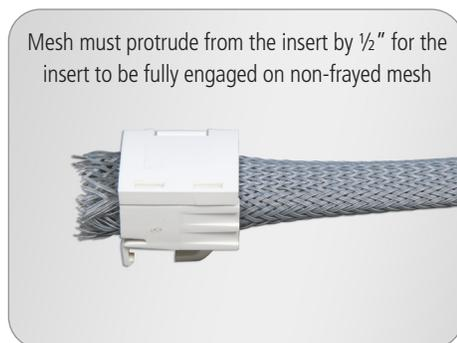

Figure 19
11. Once cover is closed, fully engage insert by pulling mesh gently and allow non-frayed mesh on clip to secure mesh in the clip (**Figure 19**).